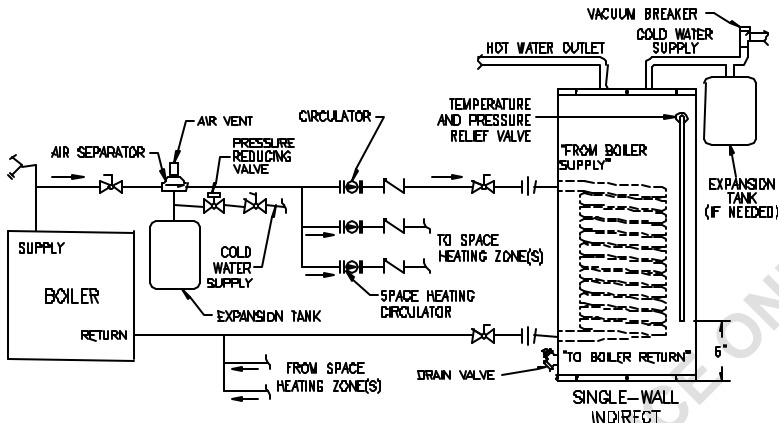

Figure 2 - Water Boiler Piping with Zone Valves
1. For a space heating system that utilizes ZONE VALVES, refer to Figure 2. The Single-wall Indirect connection labeled “FROM BOILER SUPPLY” should be piped to the boiler supply piping. Mount the circulator making sure the flow arrow points toward the water heater. The use of shut-off valves and unions are recommended for future service convenience. The use of an air separator and vent is recommended to eliminate air in the system. Pipe and fittings between the boiler and Single-wall Indirect must be ¾” diameter or larger.